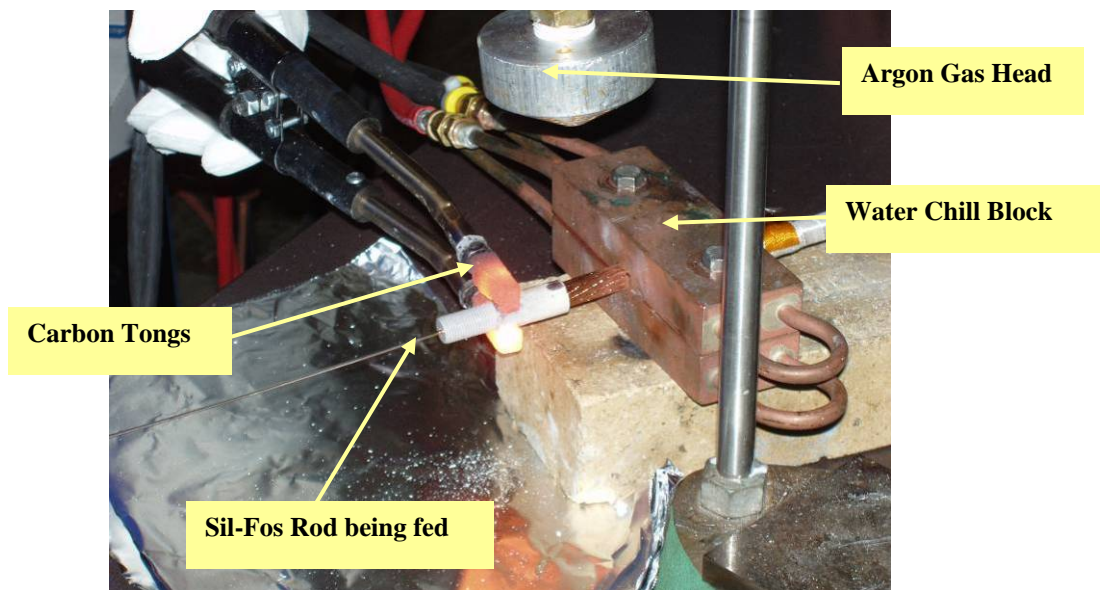

Figure 16- Basic Setup for Brazing Lead Connectors
- 6.12.7 Position the bare copper rope conductor into the water chill blocks and position the Argon gas-head directly over and approximately 4 inches from the copper connector. Chill plates should be positioned on the bare conductor to the edge of the insulation. [Figure 16- Basic Setup for Brazing Lead Connectors]